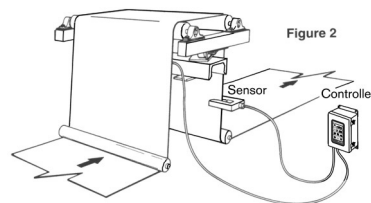

Figure 2
**Displacement Guides (See Figure 2)**